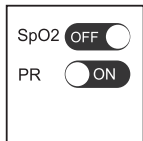

Fig.4-3
4.1.1 Tap "Indication Switch" and on the next screen tap the ON or OFF button the enable or disable the indication of SpO₂ or PR, as shown in **Fig.4-3**.